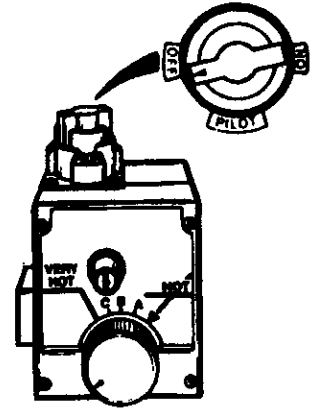
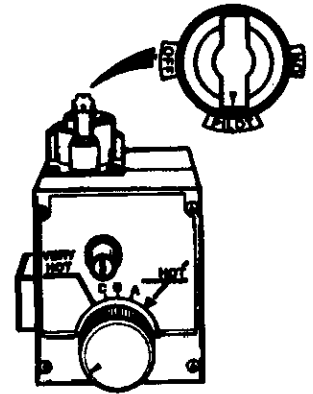
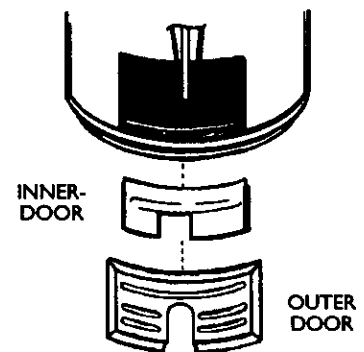

Figure 5
Figure 6
Figure 8
4. Turn gas control knob clockwise () to "OFF" position. Knob cannot be turned from "PILOT" to "OFF" unless knob is depressed slightly. **DO NOT FORCE.** (Figure 5, page 19).
5. Wait five (5) minutes to clear out any gas. If you then smell gas, STOP! Follow "B" in the safety information above on this label. If you don't smell gas, go to the next step.
6. Remove (or open) inner door located below the gas control unit. (Figure 8, page 19)
8. If you don't smell gas, turn knob on gas control counter clockwise () to "PILOT" position. (Figure 6, page 19)
9. Push in control knob all the way and hold down. Immediately light the pilot with a match. Continue to hold control knob in for about one (1) minute after the pilot is lit. Release knob and it will pop back up. Pilot should remain lit. If it goes out, repeat steps 3 through 8.
- If the pilot will not stay lit after several tries, depress and turn the gas control knob clockwise () to "OFF" and call your service technician or gas supplier. (Figure 5, page 19)
10. Replace (or close) inner door. Replace outer door if door does not cover gas control on/off knob or temperature adjustment knob. (Figure 8, page 19)
2. Turn gas control knob clockwise () to "OFF" position. Knob cannot be turned from "PILOT" to "OFF" unless knob is depressed slightly. **DO NOT FORCE.** (Figure 5)